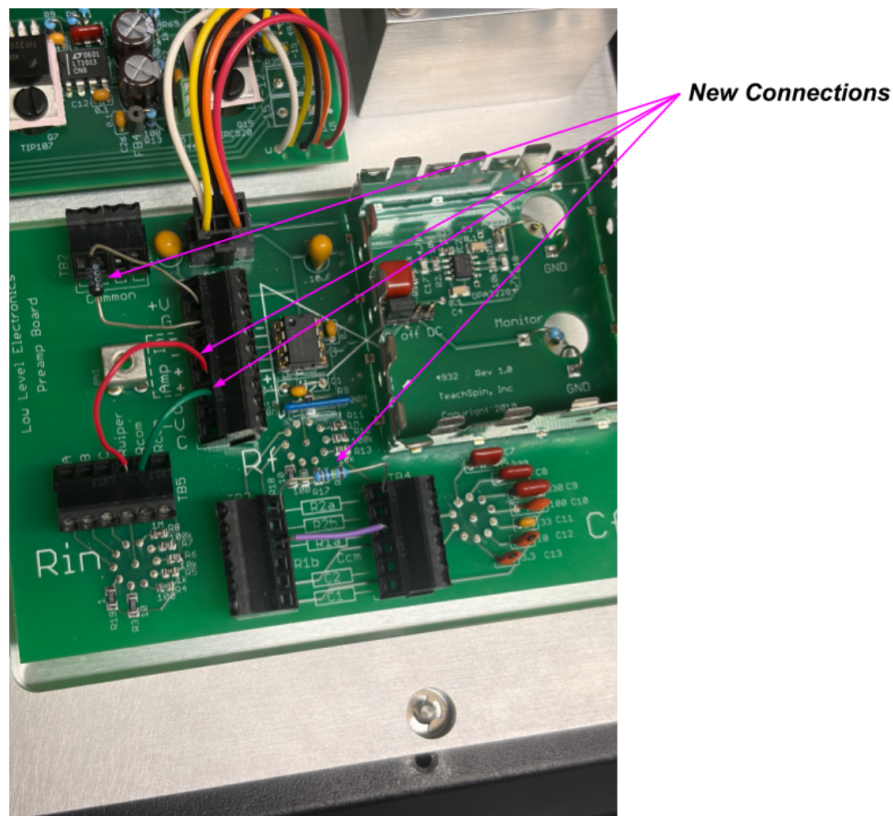

Figure 1: LLE pre-amplifier board after restoring default connections. New connections annotated in pink.
1. Opened LLE. Found missing internal connections. Wired to default state per lab manual schematic. Annotated photo in notebook p. 3 and below (Figure 1).